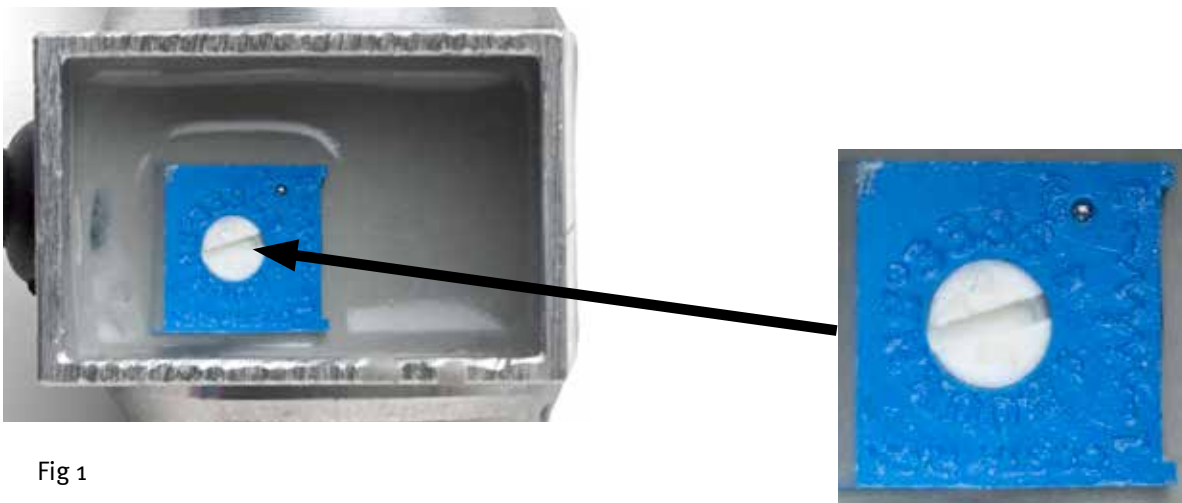

Fig 1
- a) The EFC- contains a sealed temperature circuit which is adjustable and monitors coolant temperature. Set at approx 70°C (See fig 1.)
The temperature at which the fan switches on is adjusted by turning the small control inside the body of the unit (see fig 1.) The control has a single sweep of just over 3/4 of a turn. The temperature range is 70°C to 120°C increasing in a clockwise direction. Turn the adjuster with a small screwdriver. Do not use excessive force as damage may occur. Start by setting the unit to its minimum operating temperature (fully counter clockwise). Start the vehicle and get the engine warm.